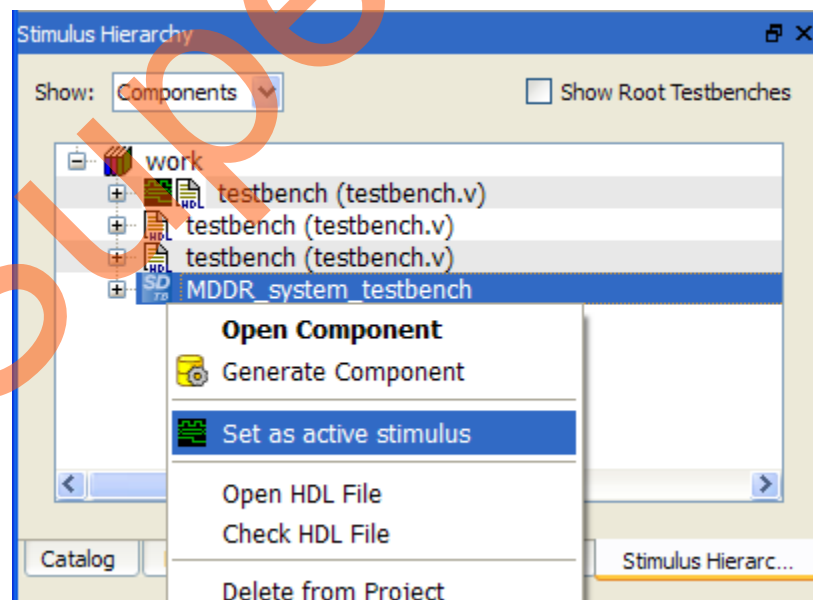

Figure 28. Setting a testbench as Active testbench
2. If not already set, right-click the **MDDR_system_testbench** and select **Set as active stimulus**, as shown in Figure 28.